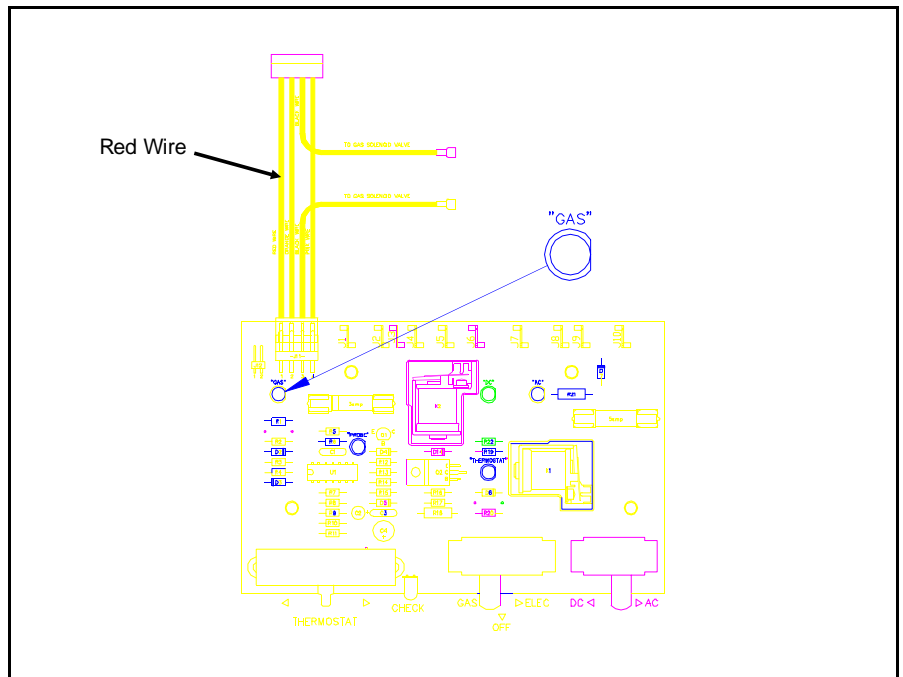

Figure 4.29 Gas Light Location
- 9. The (red) GAS light must be on as shown in Figure 4.29. If the gas light is not on replace PC Board.
- 13. Check for 12 volts at the 4 wire connector which attaches to the Ignition Module (red wire) as shown in Figure 4.29.